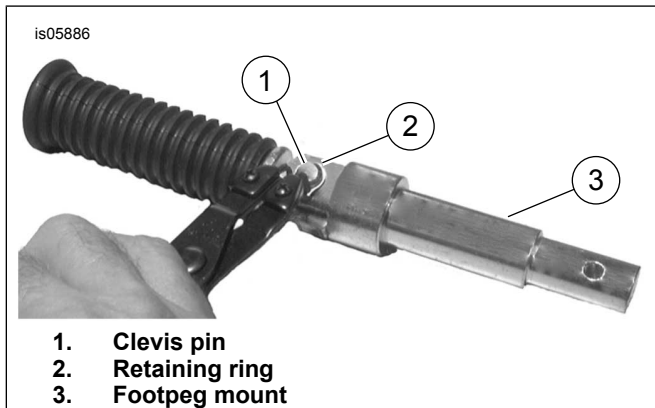

Figure 3. Install Footpeg
- See Figure 3. Remove the retaining ring and clevis pin from the footpeg. Remove the footpeg and spring clip. Save the spring clip and discard the footpeg mount, retaining ring and clevis pin. Repeat for other footpeg.